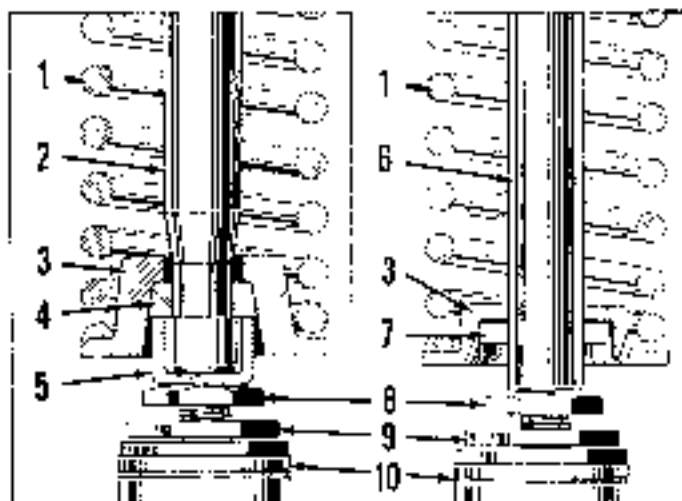

Fig. M114—Continental M&2 exhaust and inlet valves. Valve rotators are used on exhaust valves only.
12. Push valves in the engine head. Remove caps on their stem ends (Fig. M114) to provide a rotating motion each time valve is lifted. This causes a wiping action between valve face and its seat and permits longer valve life. To remove valves, remove front, cylinder head, carburetor, distributor and valve chamber cover. Stuff several bits of cloth in all return holes to valve chamber to prevent dropping valve spring keepers into crankcase. Carefully remove valve springs and remove keepers (exhaust valves have split half-round keepers and inlet valves have pins). Lift valves out of guides and springs, take retainers, seats and Rock caps out of chamber. Remove valves if stem diameter is less than the values given below: